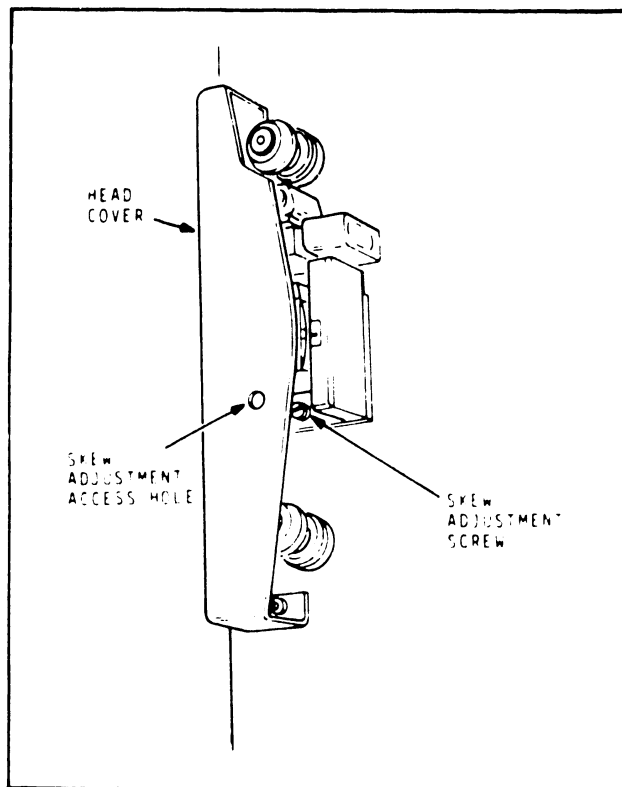

FIGURE 4-95 SKEW ADJUSTMENT
4. Adjust the skew adjusting screw on the head mounting plate (See Figure 4-95) until the indicator light goes off.